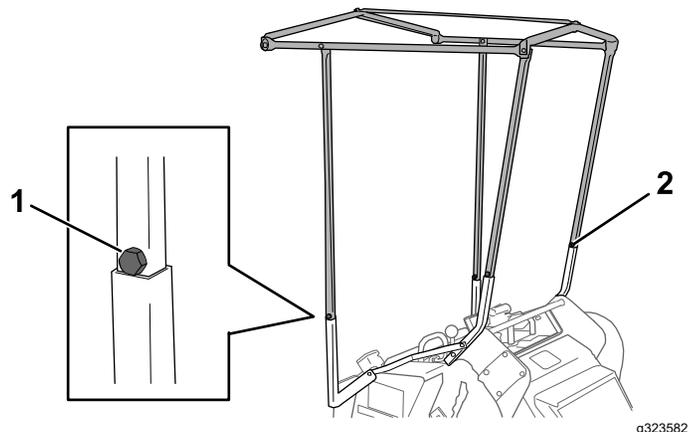

Figure 9
5. Install 4 bolts (1/4 x 1 inch) and 4 locknuts (1/4 inch) onto the posts so that the bolt heads face outward. (Figure 9).
6. With the assistance of another person, install the posts into the receiver tubes, using the bolts in the posts as stops (Figure 9).